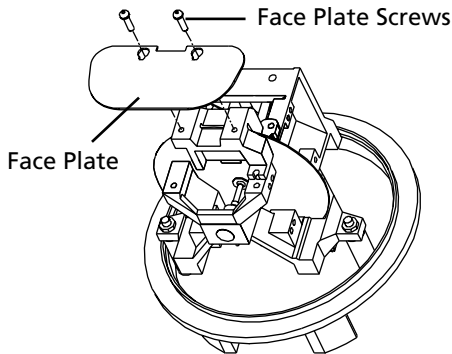

Figure 3. Removing Face Plate
| Figure 3. Removing Face Plate | 4 |
- 3. Remove the face plate screws and face plate. See Figure 3.